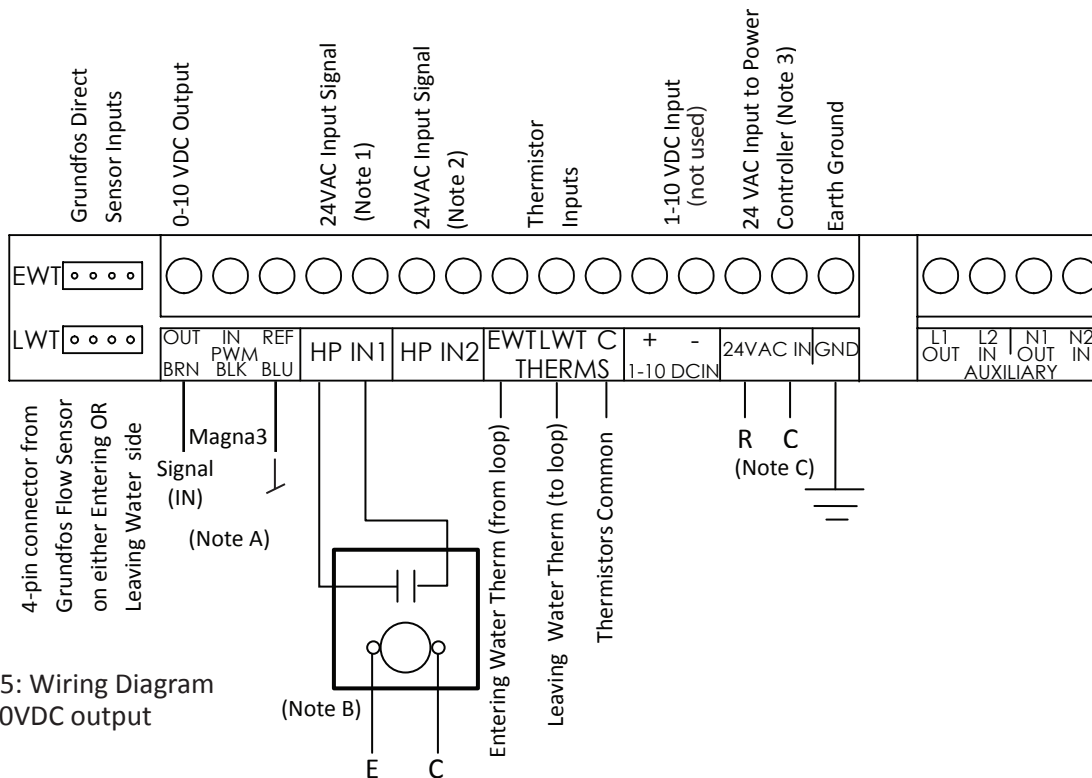

Figure 5: Wiring Diagram for 0-10VDC output
- B.** HP IN1: Used for pump enable. Left terminal receives 24 VAC input to activate controller based upon controller setting, flow rate or ΔT. Controller will send 0-10 VDC output to the pump to maintain flow rate or ΔT when enabled. If the application requires constant pump operation (or a minimum flow rate), terminals HP and IN1 should be jumpered to enable controller/pump continuous operation. **IMPORTANT:** If using 24 VAC from a nearby heat pump, some heat pump accessory relay contacts are not isolated from the 24 VAC heat pump transformer, and may create a “dirty” power signal, especially heat pumps with thermostat-controlled ECM fan motors (symptom includes variable speed pump not shutting off). An isolation relay as shown in Figure 5 will be required for these situations. Terminal E is 24 VAC; terminal C is common.